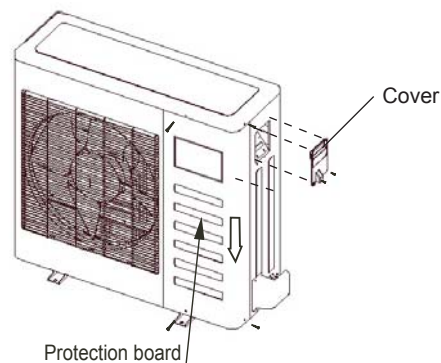

Fig.10-1a
- Disassemble the bolts from the cover. (If there isn't a cover on the outdoor unit, disassemble the bolts from the maintenance board, and pull it in the direction of the arrow to remove the protection board.) (Refer to Fig.10-1a, Fig.10-1b, Fig.10-1c)